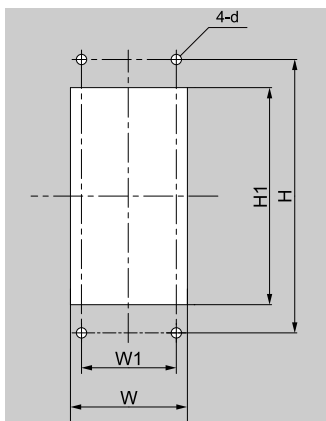

Figure 5.19 Internal/Flush-Mount Enclosure Panel Cut-Out Dimensions
1. Use the dimensions in Table 5.5 and Figure 5.19 to cut an opening and tap two holes in the enclosure panel.